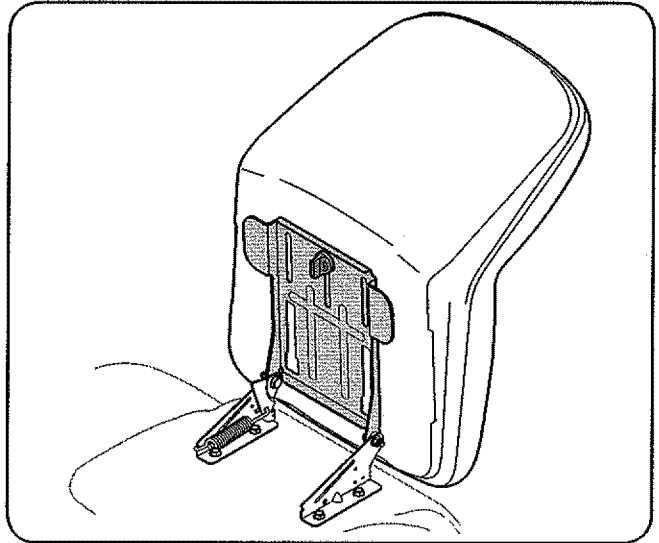

Figure 4
1. Position the shoulder screws (found on the base of the seat) inside the slot openings in the seat pivot bracket. Fig. 4.